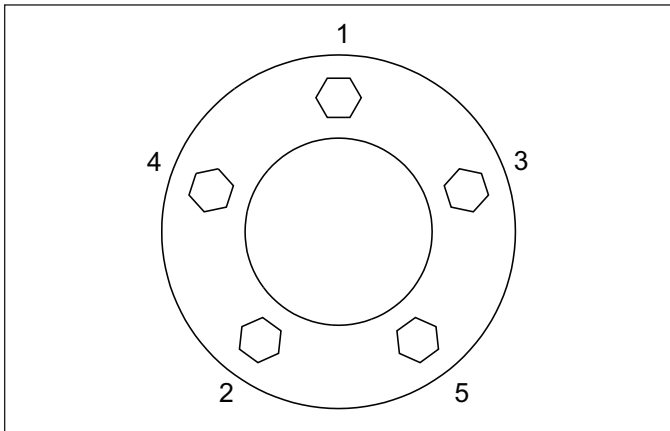

Figure 2-10: Bolt Tightening Sequence
- Install a Tire and Wheel Assembly onto each Wheel Arm Hub with 1/2-20 x 1 Wheel Bolts and tighten Wheel Bolts to 50 Ft-Lbs using the sequence in **Figure 2-10**. Then tighten to a full torque of 80-85 Ft-Lbs.